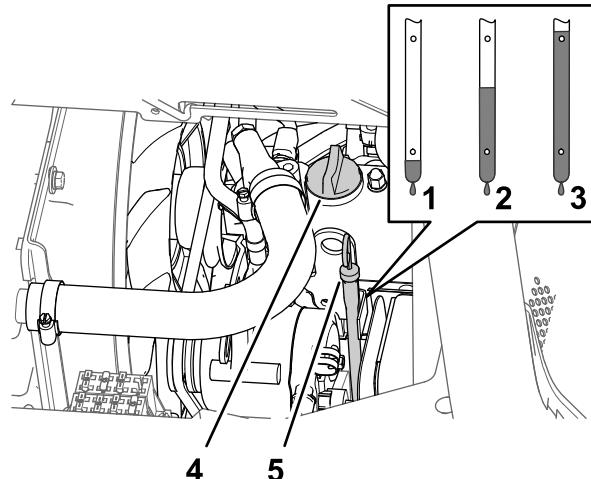

Figure 75
5. Remove the oil-filler cap from the filler neck of the valve cover of the engine (Figure 75) and slowly pour approximately 80% of the specified amount of oil into the filler neck.
6. Remove the dipstick and check the oil level in the engine (Figure 75).
7. Slowly add additional specified oil to bring the oil level to the full mark on the dipstick (Figure 75).
8. Install the oil-filler cap into the filler neck and the dipstick into the dipstick tube (Figure 75).